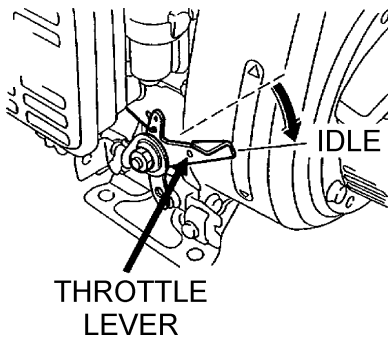

Figure 21. Throttle Lever (Idle Position)
2. Place the trowel's ***throttle lever*** (Figure 21) to the "IDLE" position.